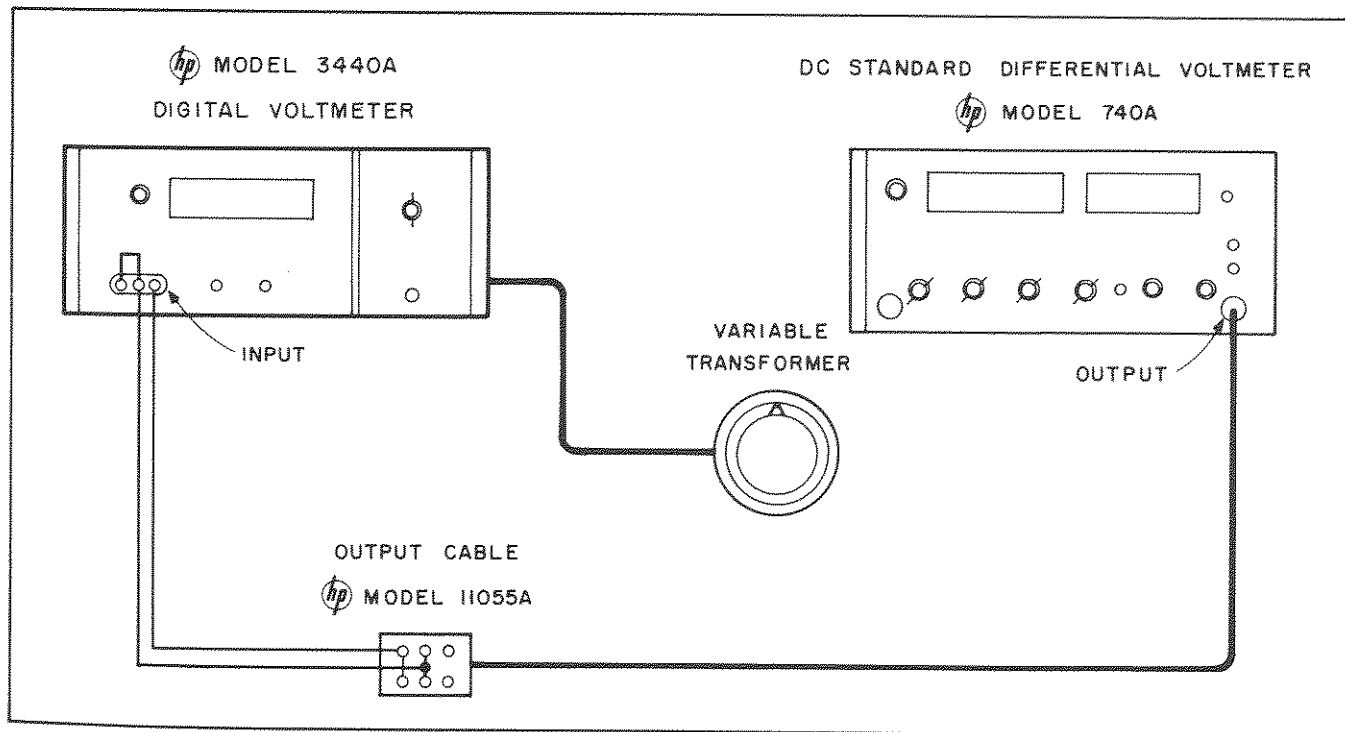

Figure 5-1. Calibration
- Connect Model 3440A as shown in Figure 5-1.